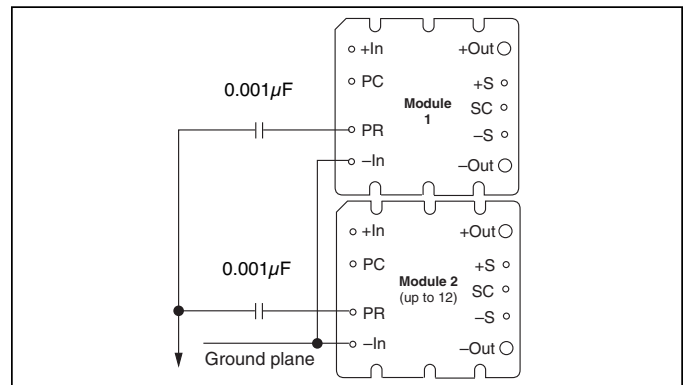

Figure 10 — AC coupled single-wire interface.
**AC coupled single-wire interface.** All PR pins are connected to a single communication bus through 0.001  $\mu\text{F}$  (500 V) capacitors. This interface supports current sharing and is fault tolerant except for the communication bus. Up to three converters may be paralleled by this method. See Figure 10.